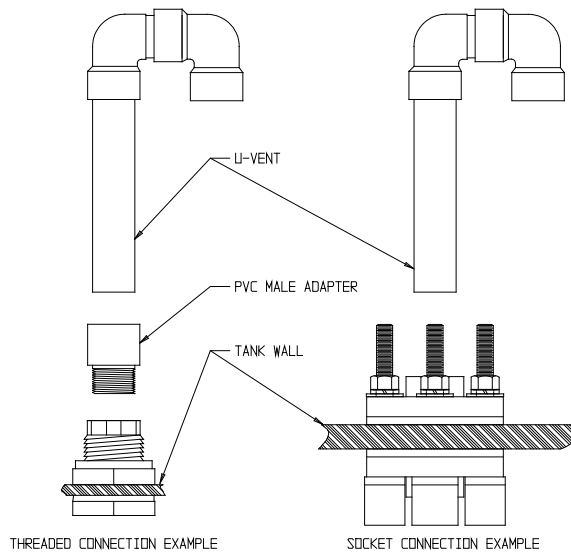

Figure 7.1
7.1.2 When installing the u-vent in a solvent weld socket fitting, solvent weld the u-vent with the proper solvent cement in the desired position into a previously installed fitting. If the u-vent is to be used in a threaded fitting, solvent weld the male adapter provided to the u-vent, and install the u-vent assembly into a previously installed threaded fitting. Refer to Figure 7.1 for an exploded illustration of this assembly.